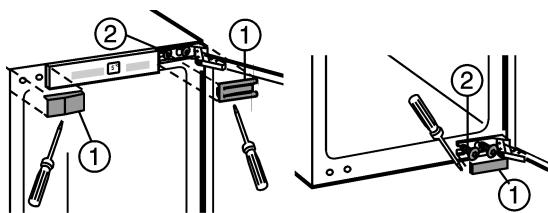

Fig. 1
- Lift off covers Fig. 1 (1).
- Only slacken fastening screws Fig. 1 (2).
- Transfer top and bottom fastening screws Fig. 1 (2) to the opposite side.
- Attach appliance door to the prefitted fastening screws Fig. 1 (2).
- Screw in mounting screws Fig. 1 (2) **tightly (4 Nm)**.
- Re-fit covers Fig. 1 (1).